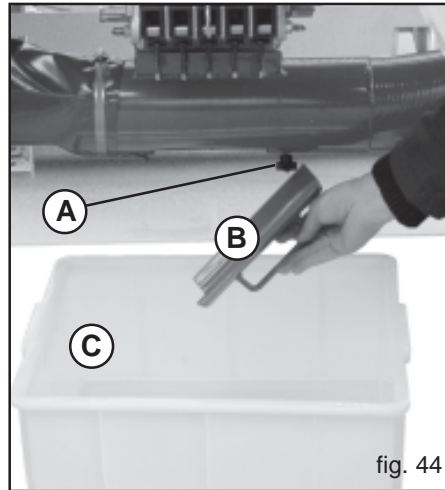
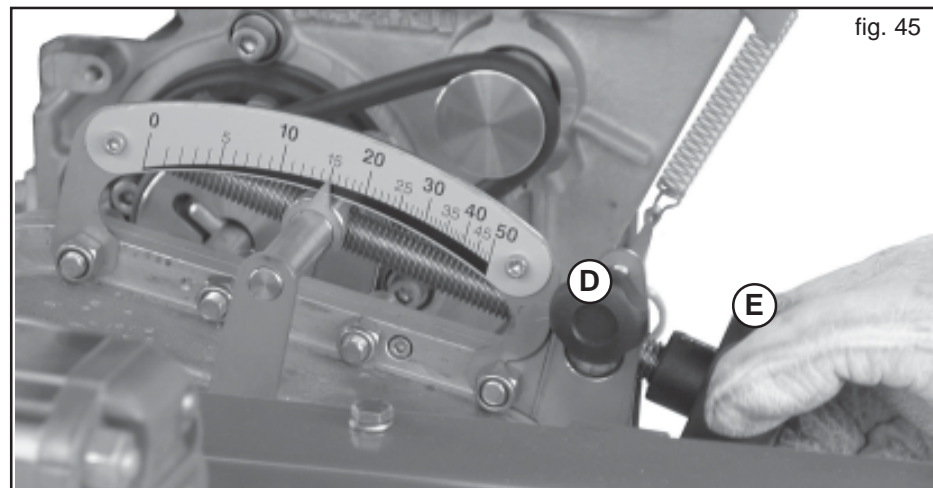

fig. 44
fig. 45
- 2) To loosen the knob (A, Fig. 44) and to remove the hatch (B).
- 3) Position the product tray underneath the discharge outlet (C).
- 4) Loosen the fastening screw on the gear adjuster (D, Fig. 45), and bring the graded indicator to the required position (depending on the quantity of product to be distributed), by rotating the adjuster knob (E, Fig. 45).
- 8) Once the distributor test has been successfully performed, secure the fastening screw of the gear adjuster once more (D, Fig. 45).